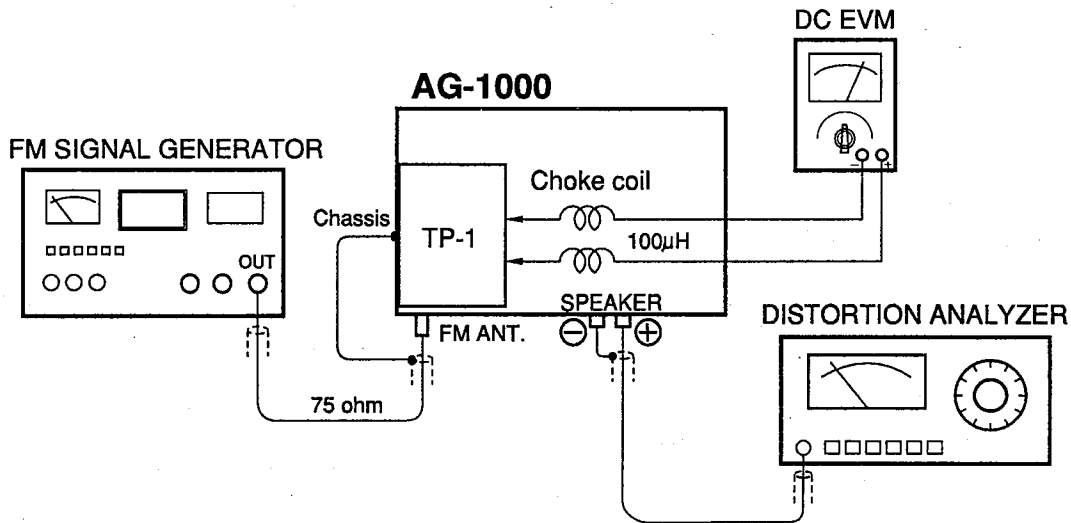

Fig. 2
1. Test equipment connections are shown in fig. 2.